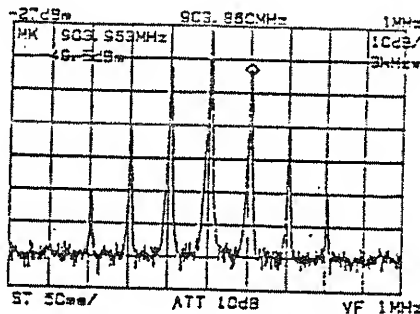

Figure 5-15 Reading the Modulation Frequency from the Marker Display
- ⑤ Move the marker to the adjacent peak and read the indication of the marker frequency (Figure 5-15).